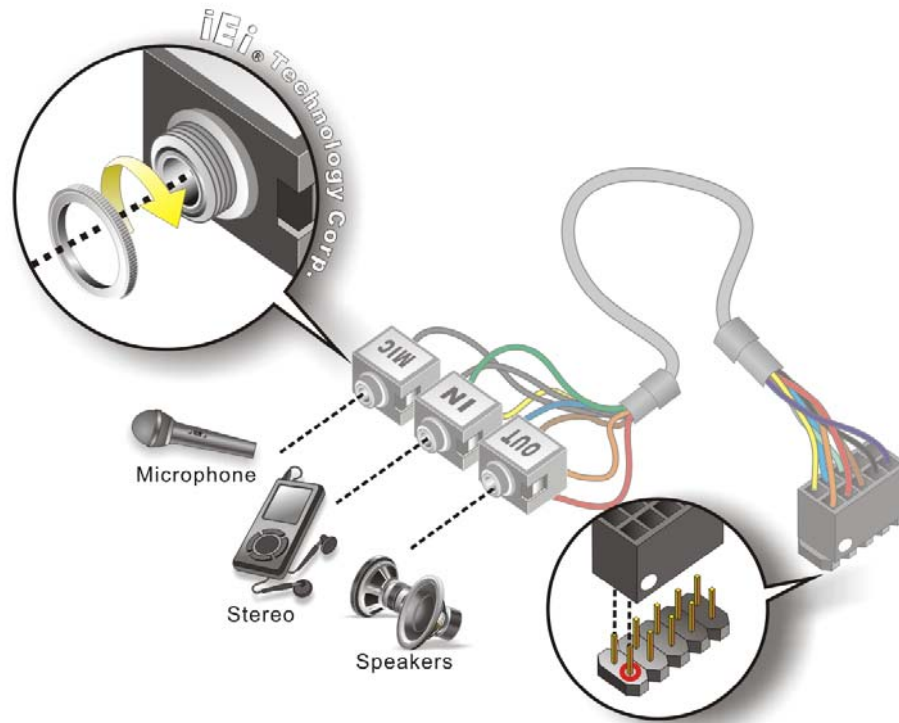

Figure 4-4: Audio Kit Cable Connection
Step 2: Align pin 1. Align pin 1 on the on-board connector with pin 1 on the audio kit connector. Pin 1 on the audio kit connector is indicated with a white dot. See **Figure 4-4**.